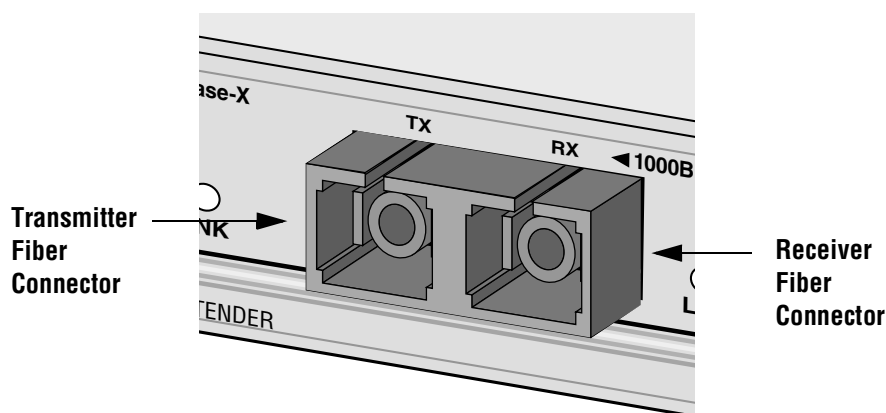

Figure 5 Dual SC Connector
- ❑ A dual SC connector consists of two separate connectors, as shown in Figure 5. Each connects to a separate fiber strand. One is for receiving data and the other is for transmitting data. When connecting a fiber optic cable to a dual SC connector, be sure that the receiver fiber connector is connected to the transmitter connector on the remote end node, and the transmitter fiber connector is connected to the receiver connector on the remote node.
- ❑ A dual SC connector consists of two separate connectors, as shown in Figure 5 on page 23. Each connects to a separate fiber strand. One is for receiving data and the other is for transmitting data. When connecting a fiber optic cable to a dual SC connector, be sure that the receiver fiber connector is connected to the transmitter connector on the remote end node, and the transmitter fiber connector is connected to the receiver connector on the remote node.